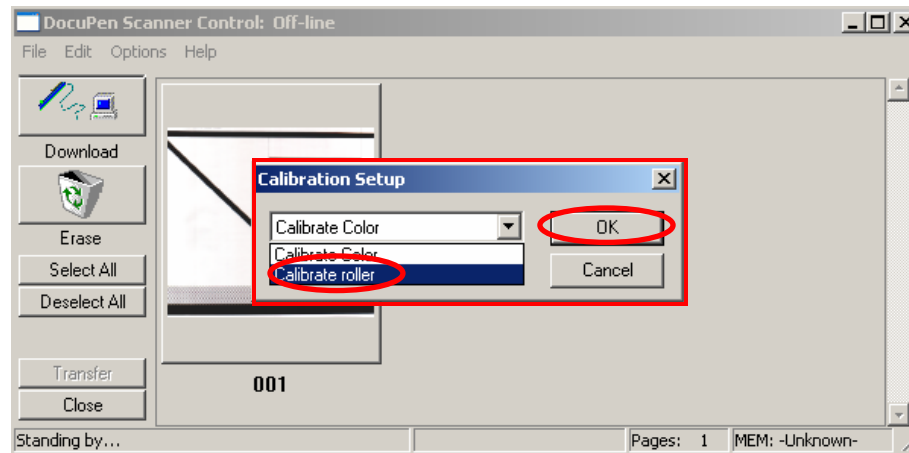

Fig 3
5. In the **Calibration Setup** dialog window – Select **Calibrate Roller** and confirm by clicking the **OK** button (Fig. 3).